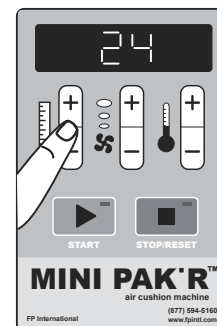

Figure 12
- **Fixed Length:** To produce a fixed length of air cushions, press the (+) button until the desired length shows in the display. The machine will count down the length of air cushions yet to produce. (See Figure 12)